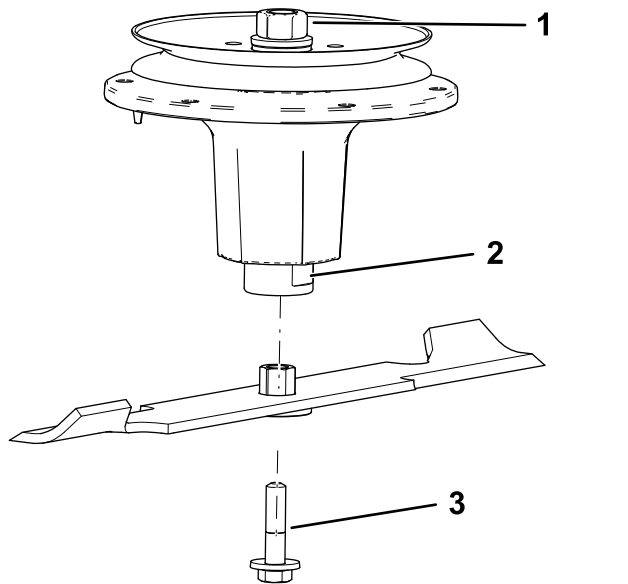

Figure 109
2. Install the bushing/blade assembly into the spindle shaft (Figure 109).